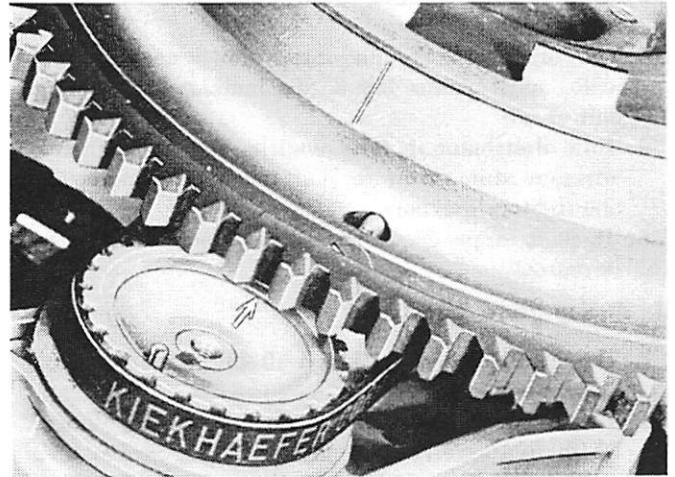

Figure 2. Timing Marks on Flywheel and Pulley
1. Rotate flywheel until timing mark (a straight line stamped on upper surface) is in a straight line with center of crankshaft and distributor pulley center. (Figure 2)